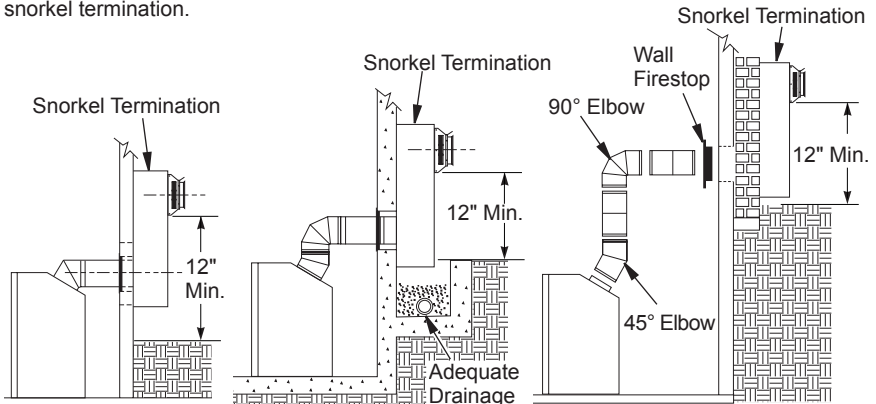

Figure 16 - Snorkel Termination Configurations for Below Ground Installation
- Snorkel terminations are required when minimum clearance to grade cannot be met (see Figure 16 on page 13).
- Snorkel terminations are available for installations requiring a vertical rise on the exterior of the building. If installing snorkel termination below grade, you must provide proper drainage to prevent water from entering snorkel termination (see Figure 16). Do not back fill around snorkel termination.